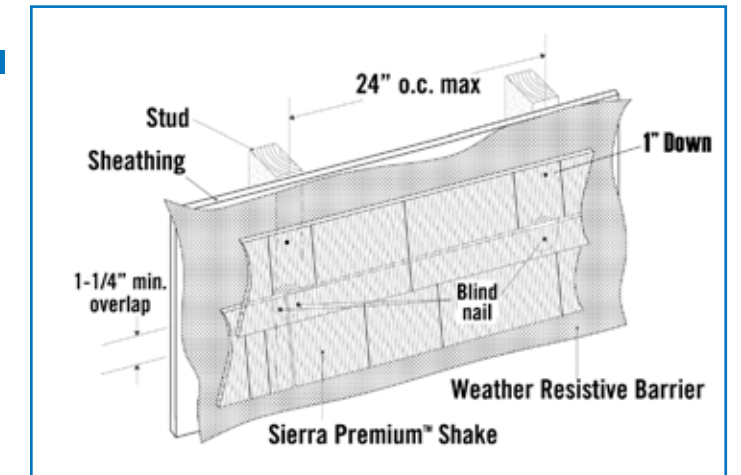

Fig. 6.1
- For a more aesthetically pleasing installation, Sierra Premium™ Shake and Smooth boards may be installed in a hidden, or blind nail application. (Fig. 6.1)